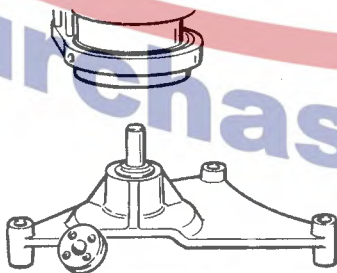

Fig. 3-27 - Fan Bearing Removal
4. The fan bearing and shaft is removed with the use of an arbor press or other suitable device (Fig. 3-27). Support the fan bracket on the inside under the bearing opening with a tube of approximately 1-1/2 inch diameter and 2-1/2 inch length. Use a 1/2 inch diameter drift to press on the end of the shaft. Press on end of shaft until bearing is free from bracket and shaft is free from pulley hub.